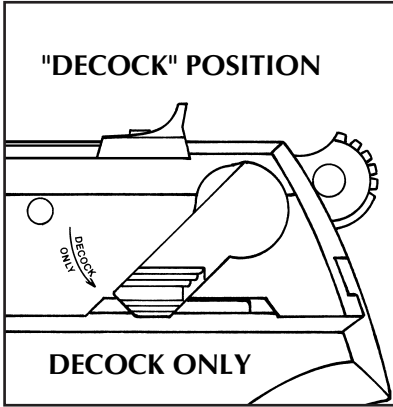

FIGURE 1
To decock the pistol, **point the pistol in a safe direction.** Depress the cocking lever until the hammer drops. The decocking lever blocks the hammer from the firing pin while simultaneously blocking the firing pin from movement towards the cartridge (see Figure 1, p. 6). To return the pistol to firing condition, simply release the decocking lever (see Figure 2, p. 6). It will spring upward to its original position. The pistol is then ready to fire by a “double-action” pull of the trigger. The hammer can also be manually cocked immediately before shooting a “single-action” firing. The trigger pull is both shorter and relatively lighter in the “single-action” mode, which is preferred for more accurate shooting.
1. **The muzzle of the pistol must be pointing in a safe direction at all times, and fingers should be outside of the trigger guard.** Decock the pistol by depressing the decocking lever until the hammer drops. (See Figure 1, p. 6)